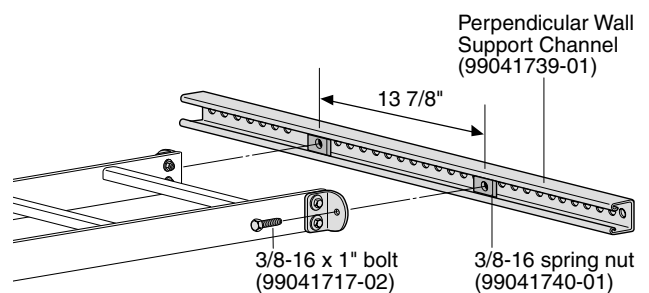

Figure 3
1. Place the Perpendicular Cable Runway Wall Support Channel on the wall at the desired location and mark the required anchor holes. The bottom of the channel should be placed 3/16" higher than the bottom of the Cable Runway Ladder to be supported. (Figure 3)
7. Align the Tie Bolt brackets attached to the Cable Runway Ladder with the spring nuts in the channel. Insert a 3/8-16x1" bolt through each Tie Bolt bracket into the spring nuts. Tighten both bolts completely. (Figure 3)